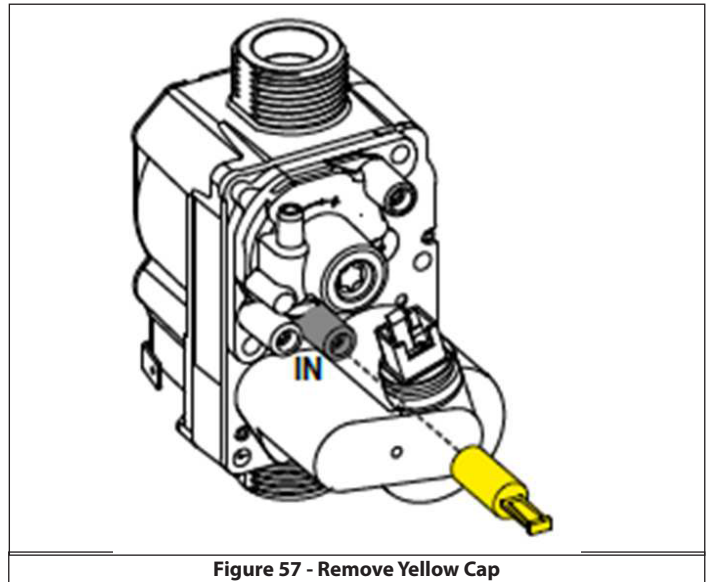

Figure 57 - Remove Yellow Cap
NOTE: Refer to Figures 57 and 58 when checking gas pressure. Loosen the bolts before checking the gas inlet pressure.
- Remove yellow cap from line pressure test point. See Figure 57.